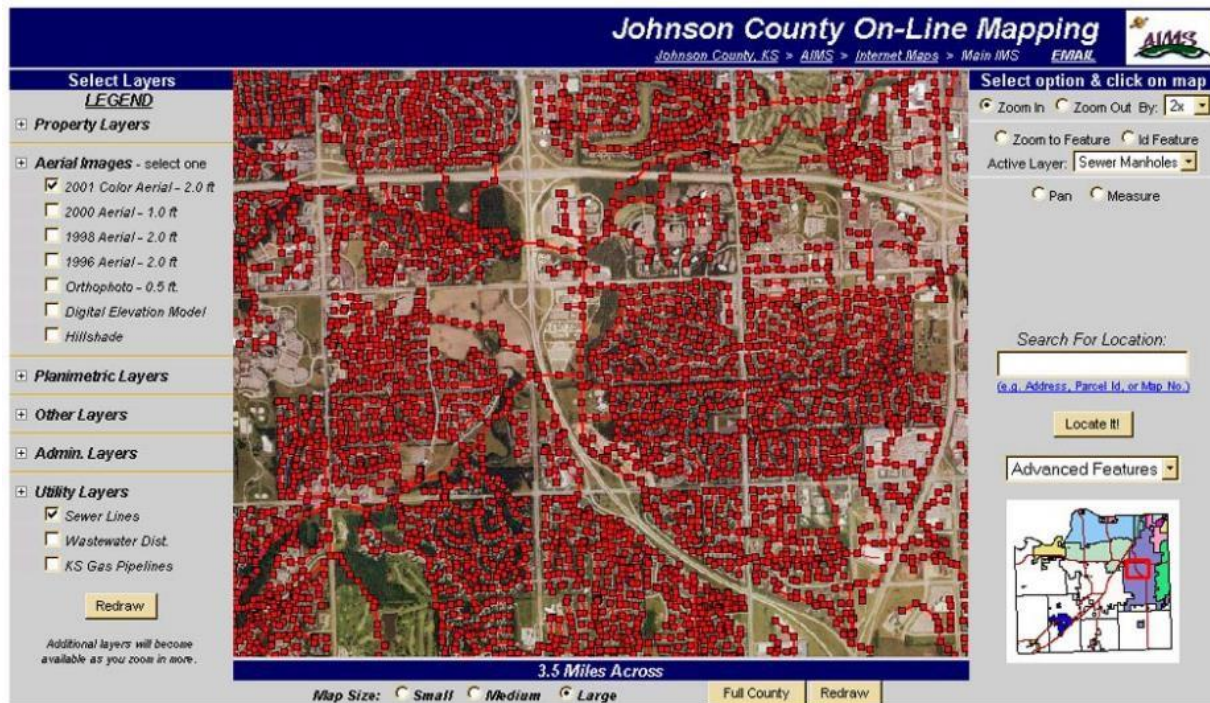

Figure 7: Example of a geographic information system (GIS) with sewers as red lines and manholes as red dots.
- Maps or geographic information system (GIS) of collection system including sewers, manholes, pump stations, and force mains (see Figure 7),